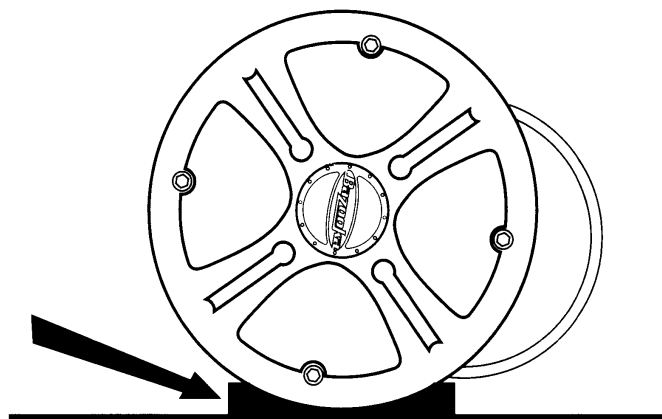

Figure 4
3. Place each mounting base under the Bass Tubes® enclosure so that the apex at the bottom of the tube sits inside the mounting base as in figure 4.